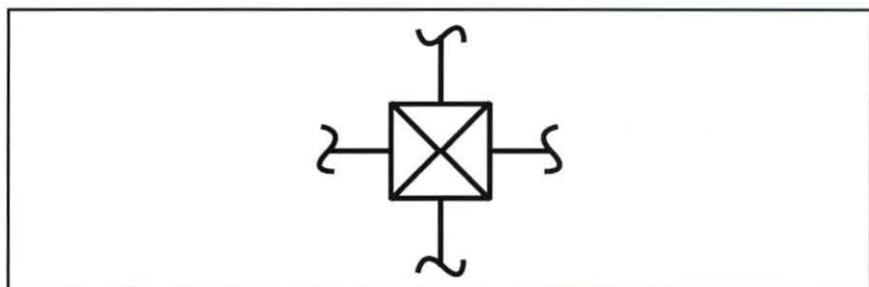

Figure 29. Valve Symbol
7. Determine the type of valve or actuator symbol depicted in figure 29.